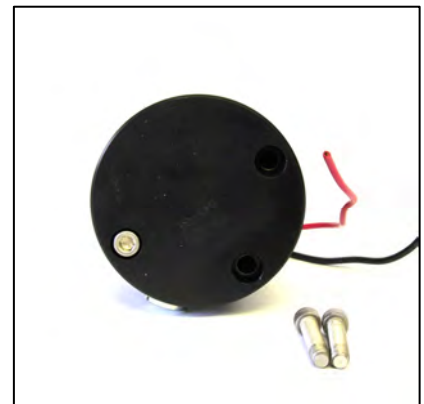

Figure 1
2. Remove the three 3/16 Allen head screws from the bottom of the pump. **(Figure 1)**